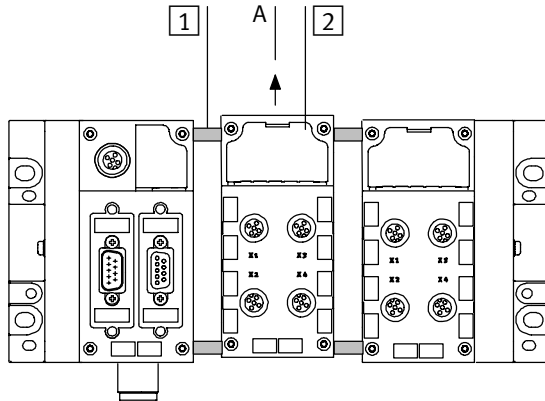

Fig. 2/3: Removing a module or manifold sub-base
1. Insert the module in the desired position (see Fig. 2/3).